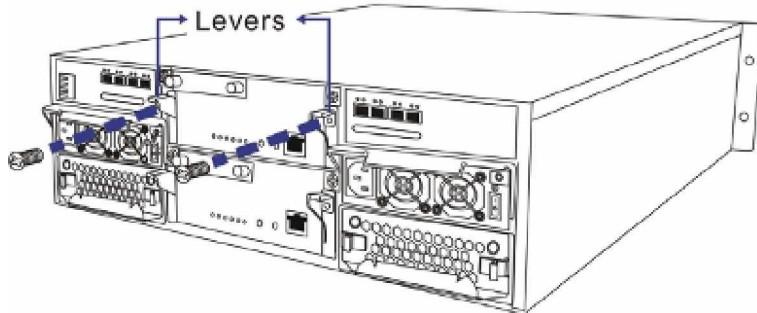

Figure 5-6: Installing the Controller Module Screws
Step 5. *Secure the controller module to the subsystem* by installing the two (2) screws on the levers. (See *Figure 5-6*)